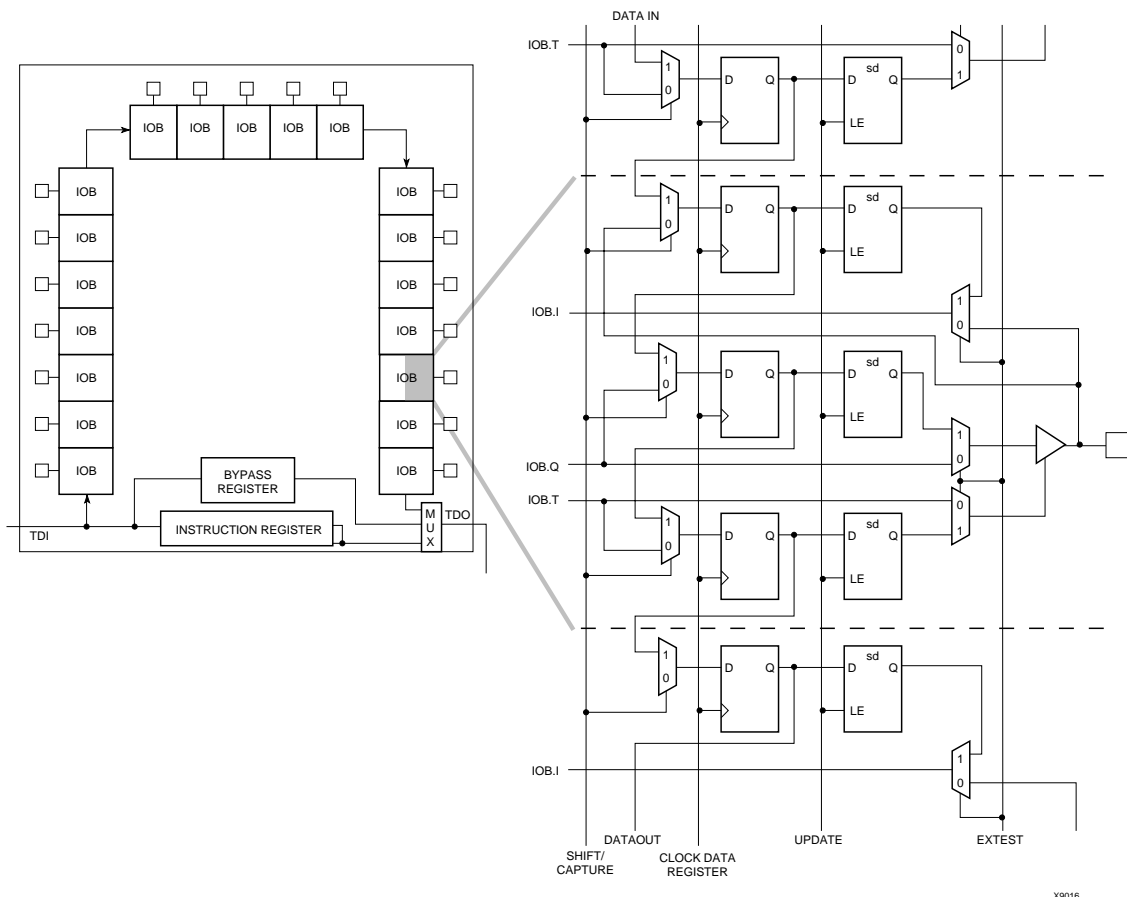

Figure 10: Virtex Series Boundary Scan Logic
**Figure 10** is a diagram of the Virtex Series boundary scan logic. It includes three bits of Data Register per IOB, the IEEE 1149.1 Test Access Port controller, and the Instruction Register with decodes.